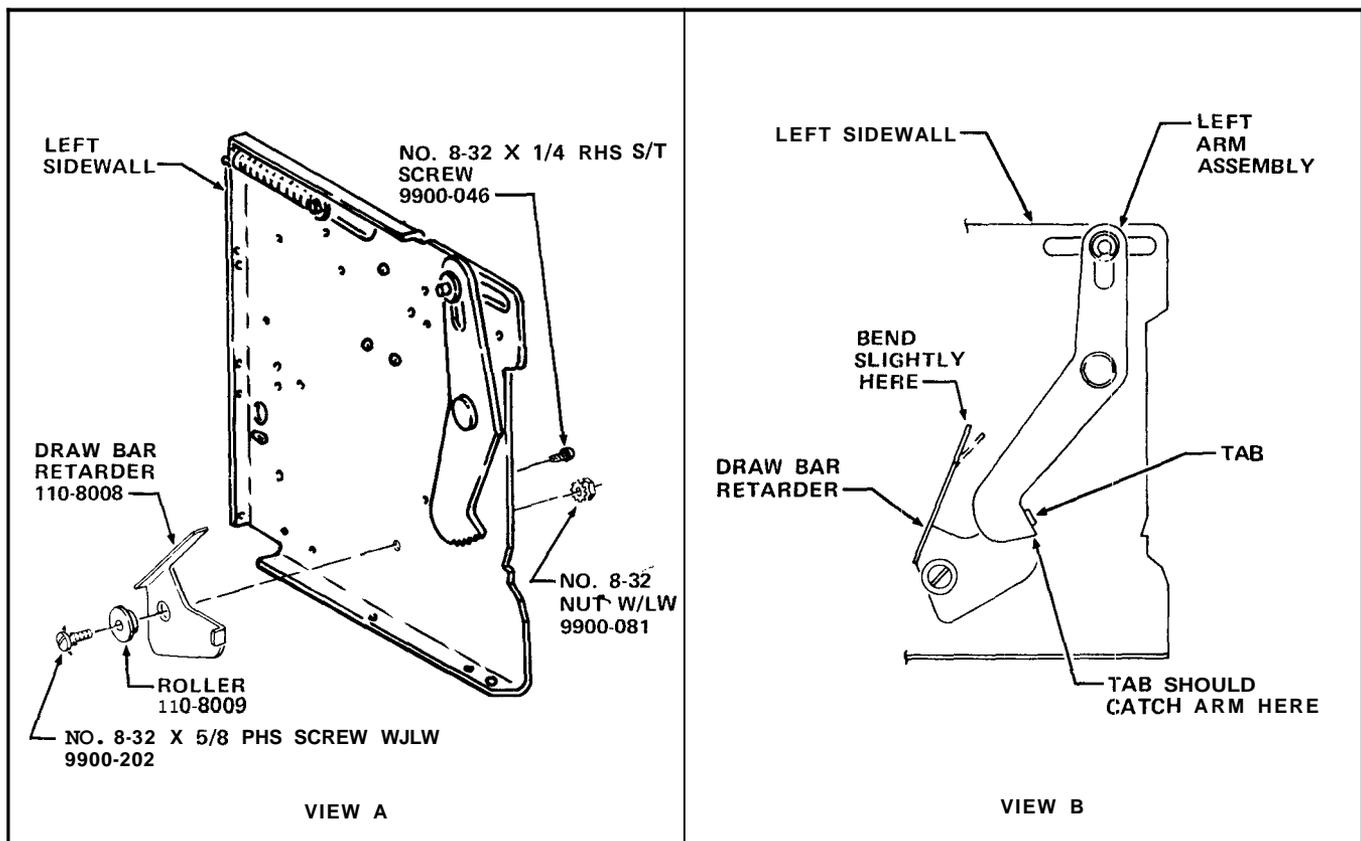

FIGURE 4-5
39. Install the Draw Bar Retarder, Part Number 110-8008, and Roller, Part Number 110-8009, on the Left Sidewall using a No.8-32 x 5/8 PHS Screw with Lockwasher, Part Number 9900-202 and a No.8-32 Nut with Lockwasher, Part Number 9900-081, all included in the Kit. Lubricate the Roller with Lubriplate. See View A of Figure 4-5.
40. Install a No.8-32 x 1/4 RHS Self Tapping Screw, Part Number 9900-046, included in the Kit, from the inside of the Left Sidewall so the Draw Bar Retarder Arm rests on the threads of the Screw. See View A of Figure 4-5.
*When a Pull Knob is pulled too fast, the **Draw Bar Retarder Tab** will lock the **Left Arm Assembly** preventing a "free" vend. To complete the vend cycle when this happens, pull the Pull Knob all the way out, which will release the Left Arm Assembly and allow the Pull Knob to return to the at rest position. If the Draw Bar Retarder does not satisfactorily lock the Left Arm Assembly when a Pull Knob is pulled fast, bend the Draw Bar Retarder Arm down slightly until the Draw Bar Retarder works properly. See View B of Figure 4-5.*